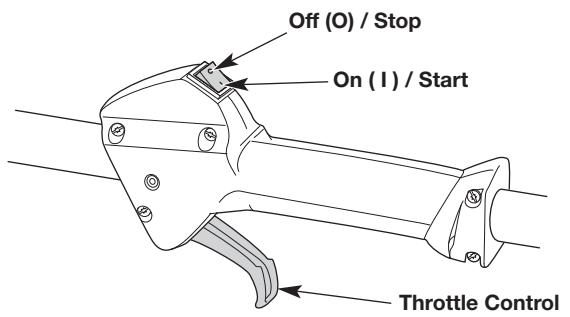
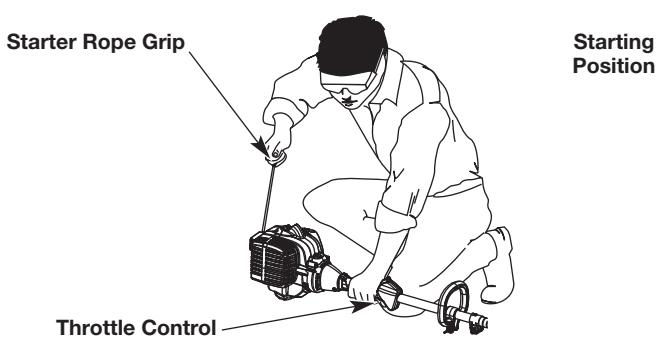

Fig. 7
Fig. 10
WARNING: Avoid accidentally starting the unit. To avoid serious injury, the operator and the unit must be in a stable position when pulling the starter rope (Fig. 10).
- NOTE:** There is no need to turn the unit on. The On/Off switch is in the ON (I) position at all times (Fig. 7).
5. Crouch in the starting position (Fig. 10).
6. Squeeze the throttle control (Fig. 7) and pull the starter rope with a controlled and steady motion **5 times** (Fig. 10).
2. Press and hold the On/Off switch in the OFF (O) position until the engine comes to a complete stop (Fig. 7).